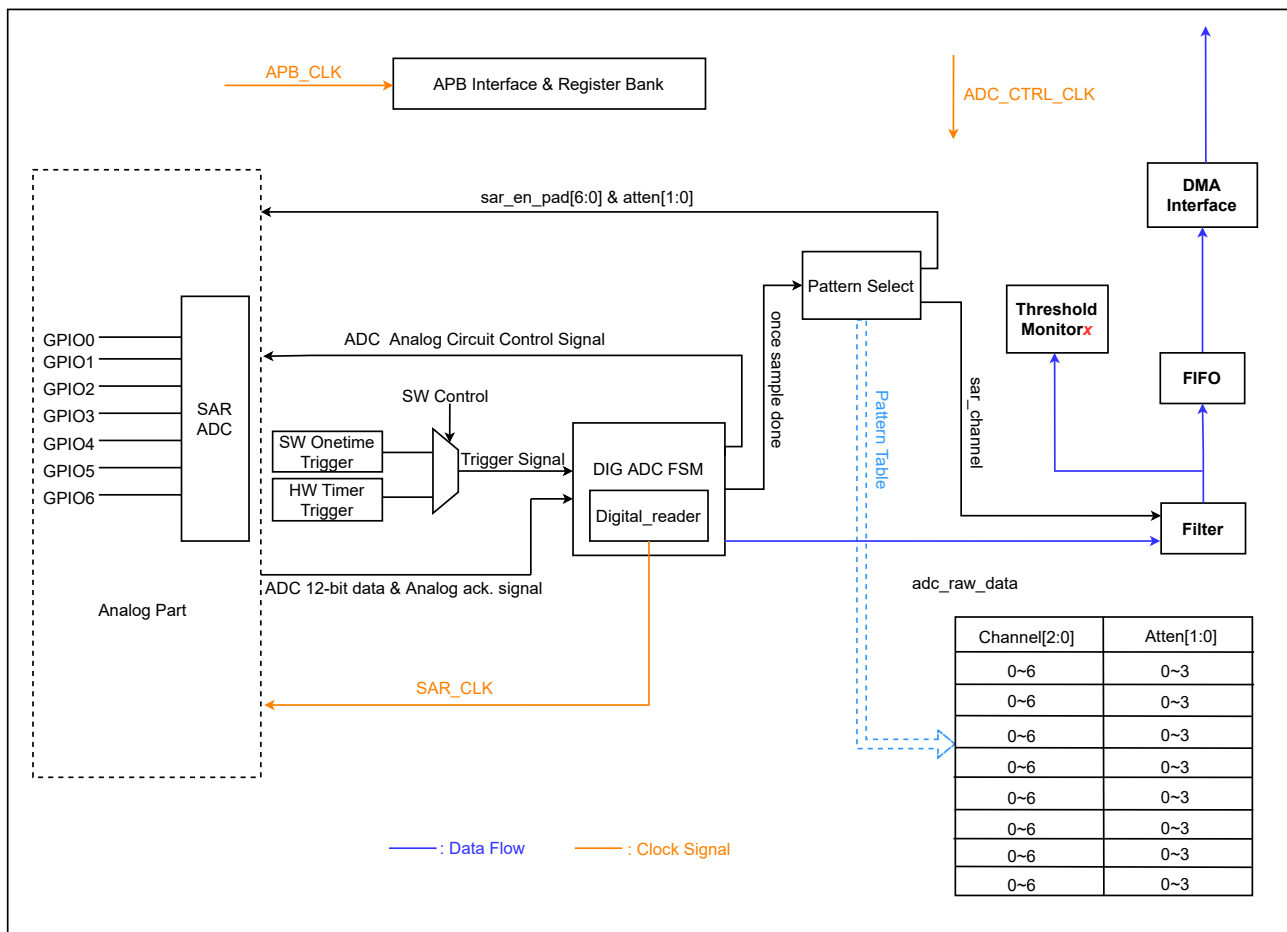

Figure 37-1. SAR ADCs Function Overview
The major components of SAR ADC and their interconnections are shown in Figure 37-1.
As shown in Figure 37-1, the SAR ADC module provides the following functions and consists of the following components:
- Transfer the data to the filter, and then threshold monitor transfers the data to memory via DMA (see Figure 37-1).